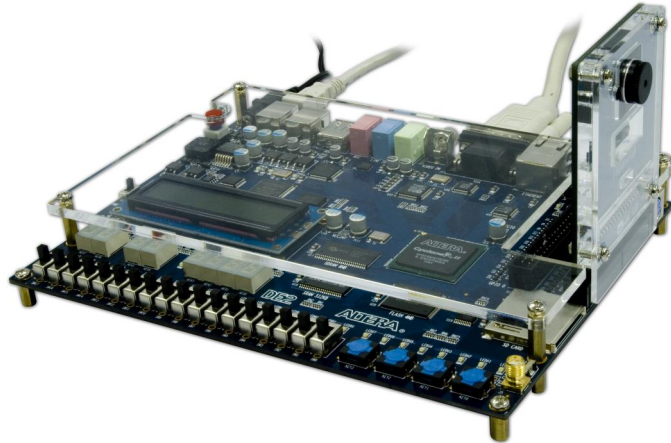

Figure 1.5 Connect the D5M to DE2 board's expansion port (**outermost port**).
4. Connect the D5M to your DE2 board as shown in Figure 1.5.